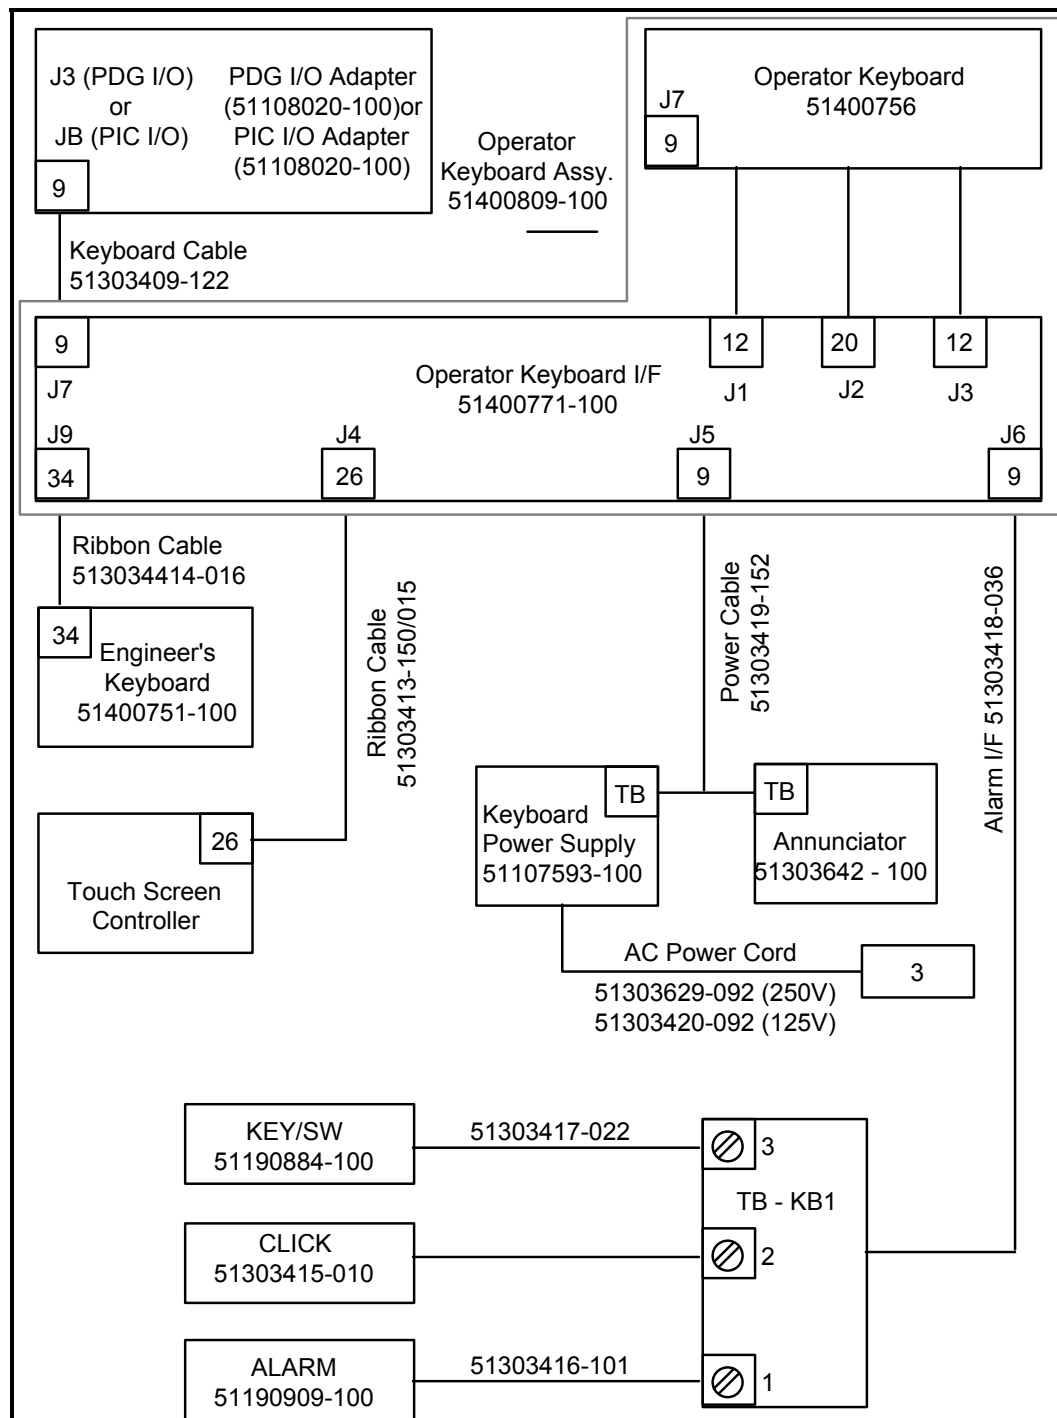

Figure 8-1 — Keyboard Cabling (Standard)
1. Original Operator's Keyboard. See Figure 8-1.